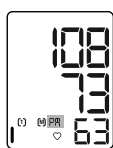

Fig. 4
- After selecting the particular user memory, the corresponding symbol or and an A appear on the display. The average value of all the data stored for the particular user memory is displayed (see Fig. 4).